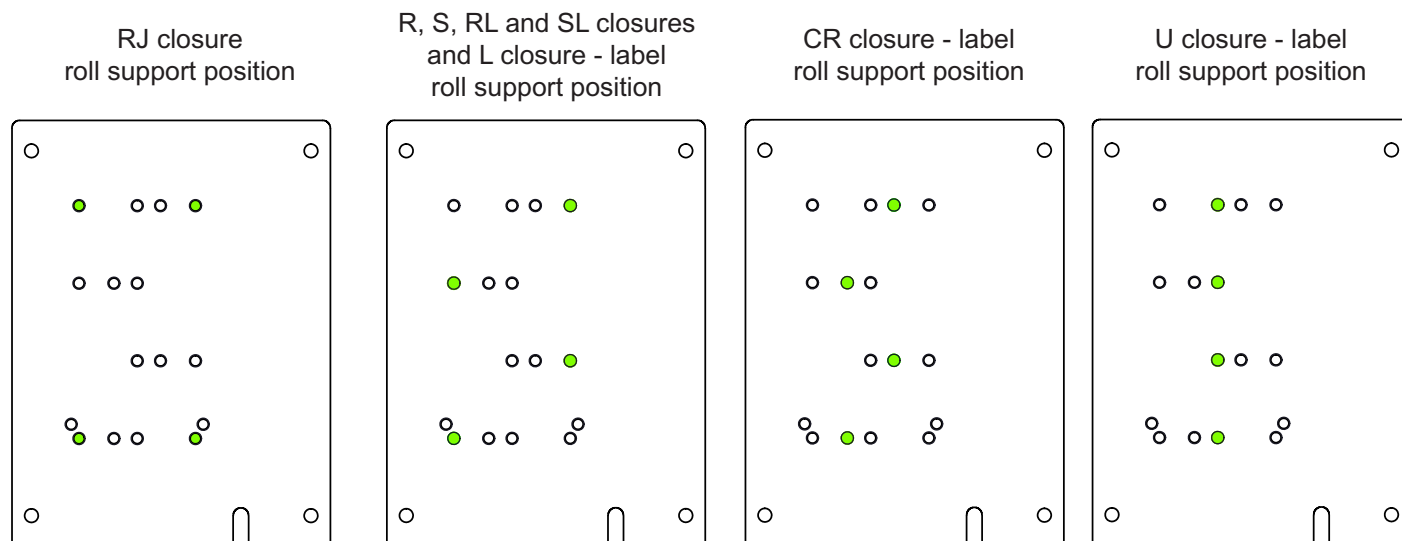

Figure 2.7
6. Align the mounting holes of the roll supports to the appropriate threaded holes on the closer (Figure 2.7).